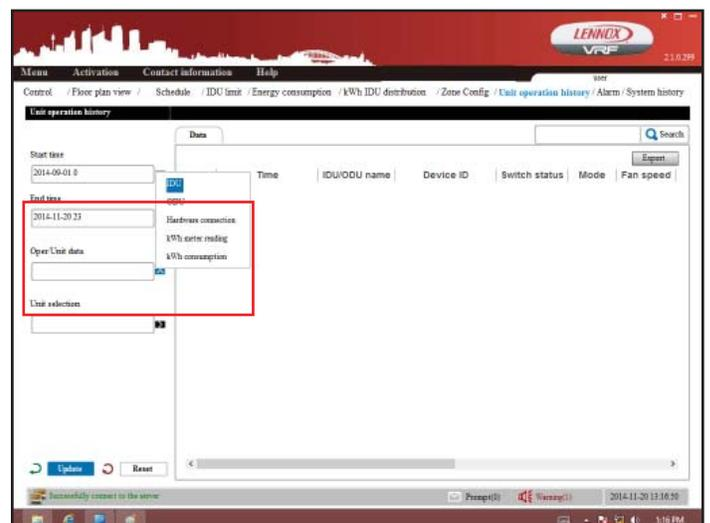

Figure 57. Select Data to Include
9. Tap the Oper/Unit data field. A menu displays. See figure 57.